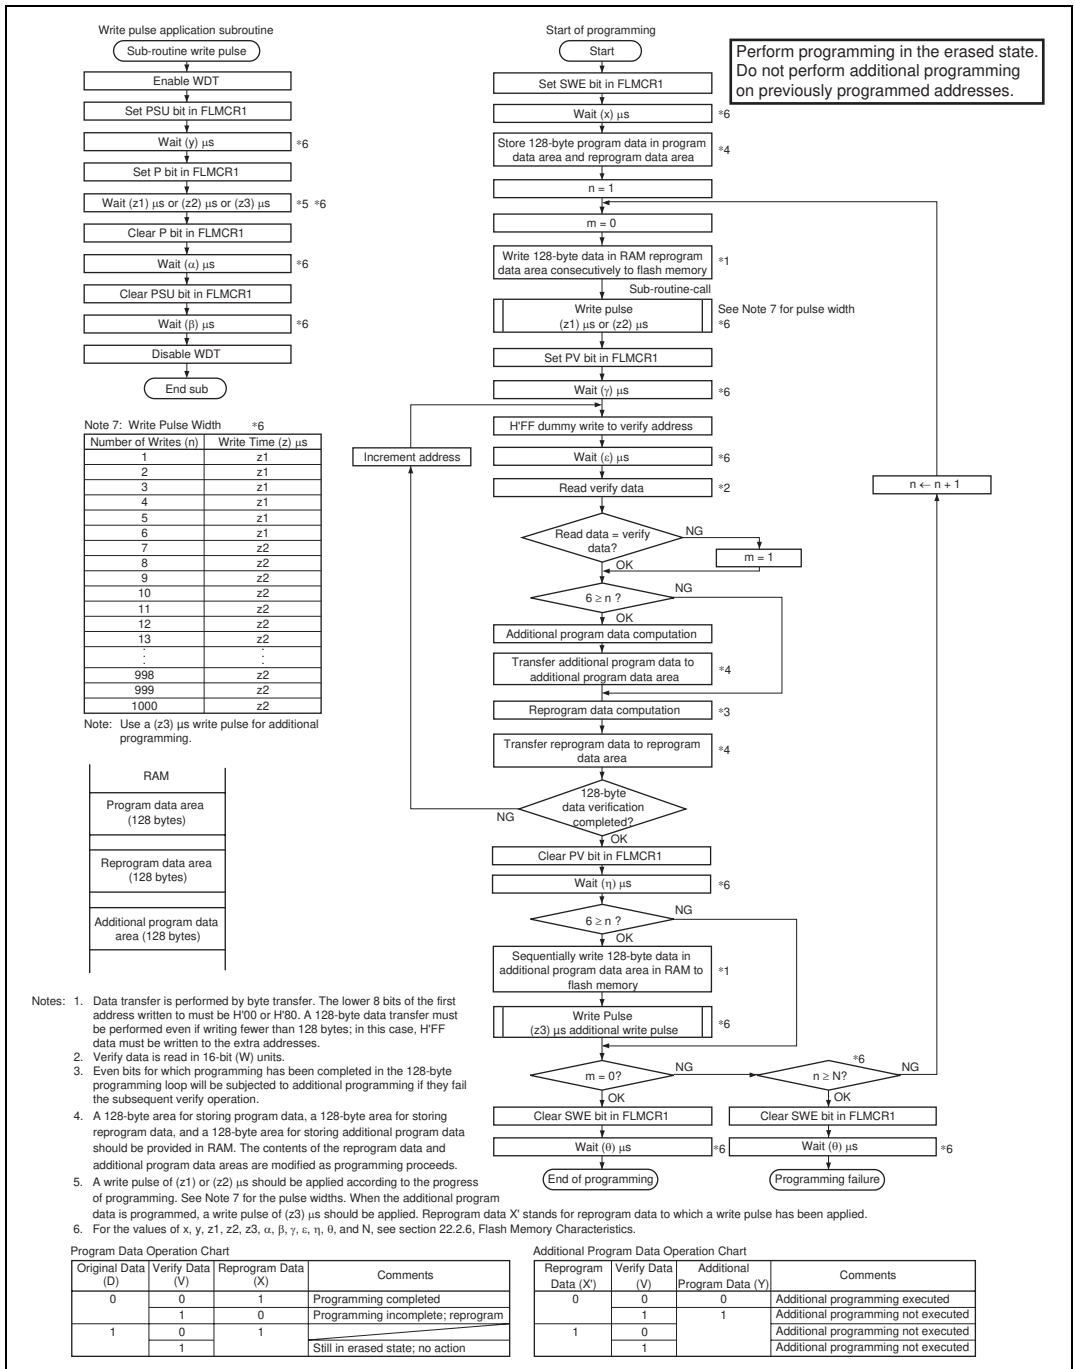

Figure 19.41 Program/Program-Verify Flowchart
After the elapse of a given programming time, the programming mode is exited (the P bit in FLMCR1 is cleared to 0, then the PSU bit is cleared to 0 at least $(\alpha) \mu\text{s}$ later). Next, the watchdog timer is cleared after the elapse of $(\beta) \mu\text{s}$ or more, and the operating mode is switched to program-verify mode by setting the PV bit in FLMCR1. Before reading in program-verify mode, a dummy write of H'FF data should be made to the addresses to be read. The dummy write should be executed after the elapse of $(\gamma) \mu\text{s}$ or more. When the flash memory is read in this state (verify data is read in 16-bit units), the data at the latched address is read. Wait at least $(\epsilon) \mu\text{s}$ after the dummy write before performing this read operation. Next, the originally written data is compared with the verify data, and reprogram data is computed (see figure 19.41) and transferred to the reprogram data area. After 128 bytes of data have been verified, exit program-verify mode, wait for at least $(\eta) \mu\text{s}$, then clear the SWE bit in FLMCR1 to 0, and wait again for at least $(\theta) \mu\text{s}$. If reprogramming is necessary, set program mode again, and repeat the program/program-verify sequence as before. However, ensure that the program/program-verify sequence is not repeated more than (N) times on the same bits.